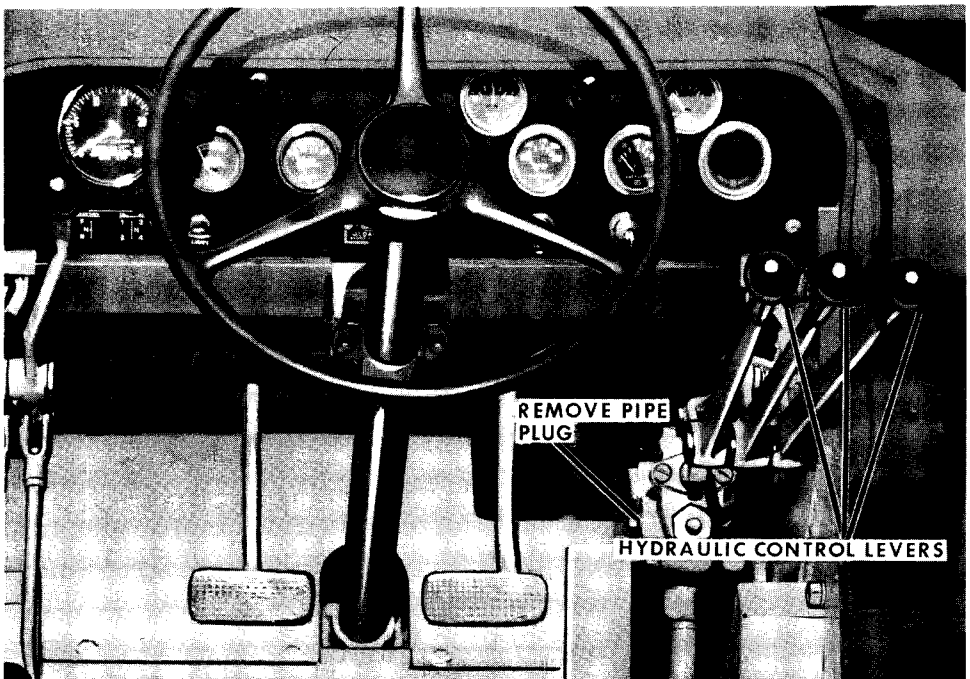

Figure 73
2. Turn off the engine and relieve hydraulic pressure in the lines by working the control levers back and forth several times, Figure 73.
3. Place a receptical under the hydraulic control valve body and remove the small pipe plug shown in Figure 73.